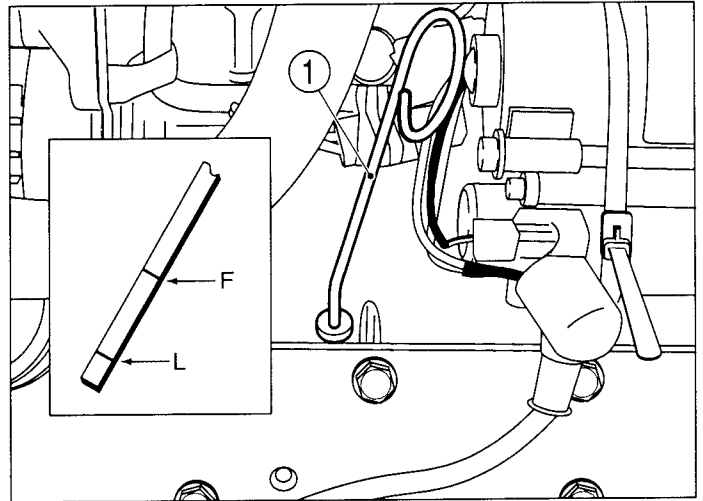

FIG. 70
FIG. 70: To Check Engine Oil Level - The tractor must be parked on level ground with the engine off. Pull out the dipstick (1) and check that oil level is between upper limit F and lower limit L on the dipstick. Wipe off the dipstick, momentarily reinstall it in the engine and check oil level again.